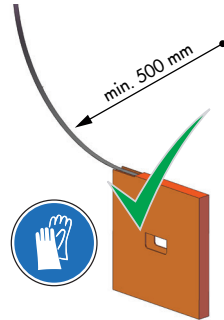

Figure 27: Minimum bending radius for code tape
- ▶ **Important:** Keep a minimum radius of 500 mm when uncoiling the code tape (Figure 27).